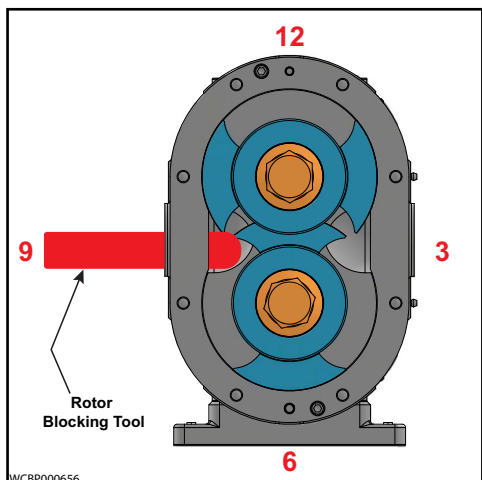

Figure 34 - Block Overlapping Rotor
NOTE: Use the rotor blocking tool (part number 139790+) to keep the rotors from turning when removing the rotor nuts, as shown in Figure 34.
1. Set the overlapping rotor wings to 3 o'clock and 9 o'clock. Set the underlapping wings to 6 o'clock and 12 o'clock. Insert the rotor blocking tool through the port to lock the overlapping rotor, as shown in Figure 34.